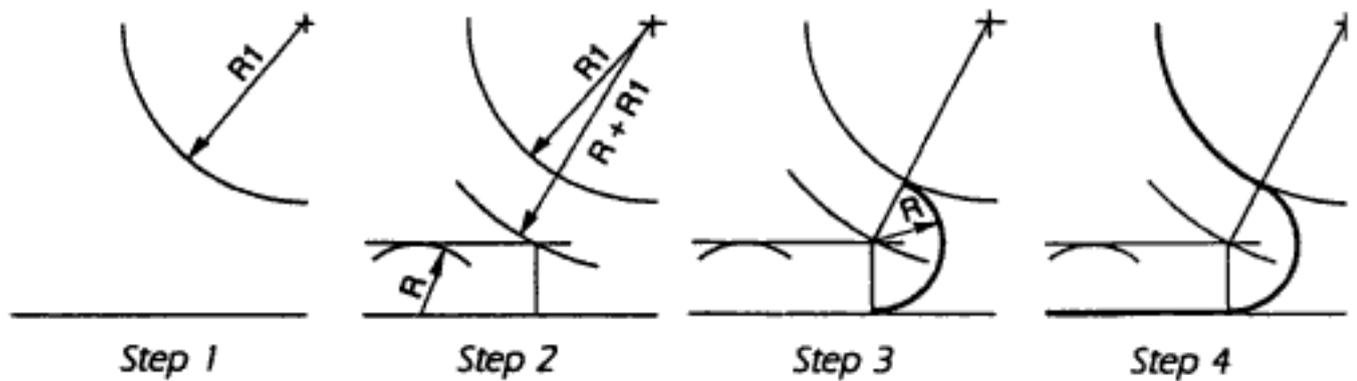

Fig 5.24
Step 2: Draw a construction line parallel to the straight line at a distance equal to the required radius, R . With radius $= R + R_1$, draw an arc of a circle, as shown in fig 5.24. Where the new arc and parallel line meet will be the centre of the desired arc.